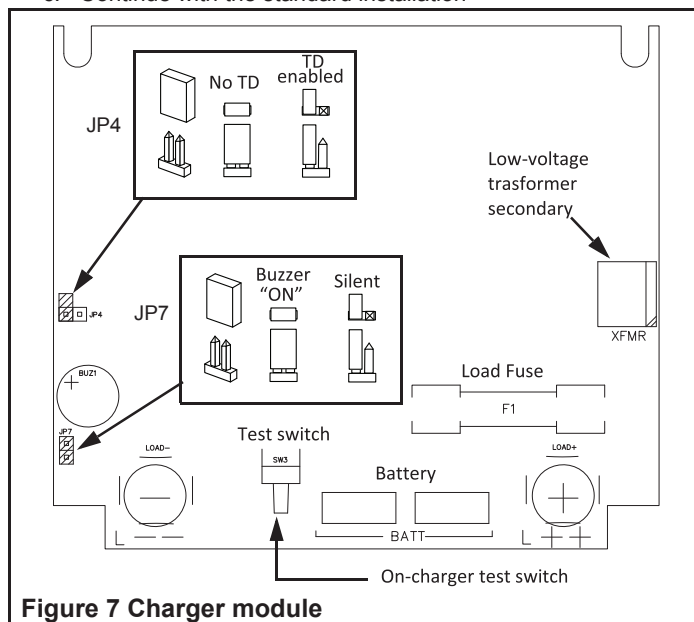

Figure 7 Charger module
- On-charger manual test:** the unit also has a test button installed on the charger module located on the bottom of the unit (See figure 7). This is useful during maintenance, with the unit door open. The button performs the same functions as the remote control.
The Time Delay feature can be enabled or disabled in the field with the following procedure (See figure 7):
The audible service alarm can also be permanently disabled in the field by disconnecting the jumper JP7 (See figure 7).